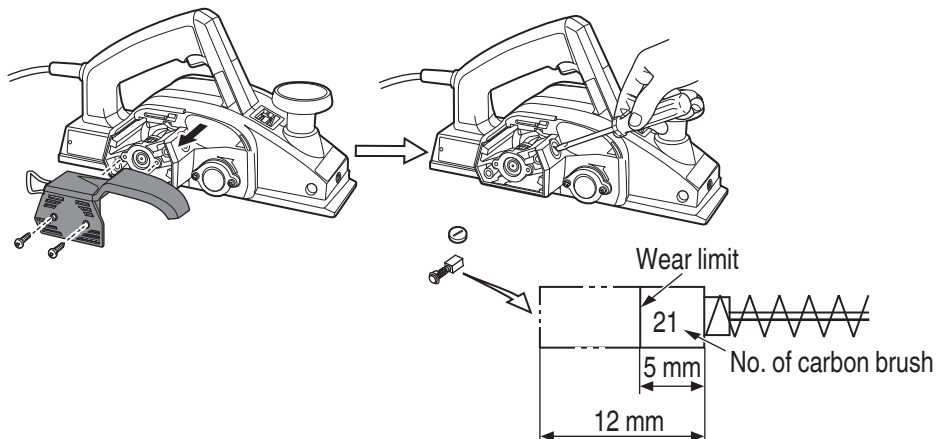

Fig. 22
4. Inspecting the carbon brushes (Fig. 22)